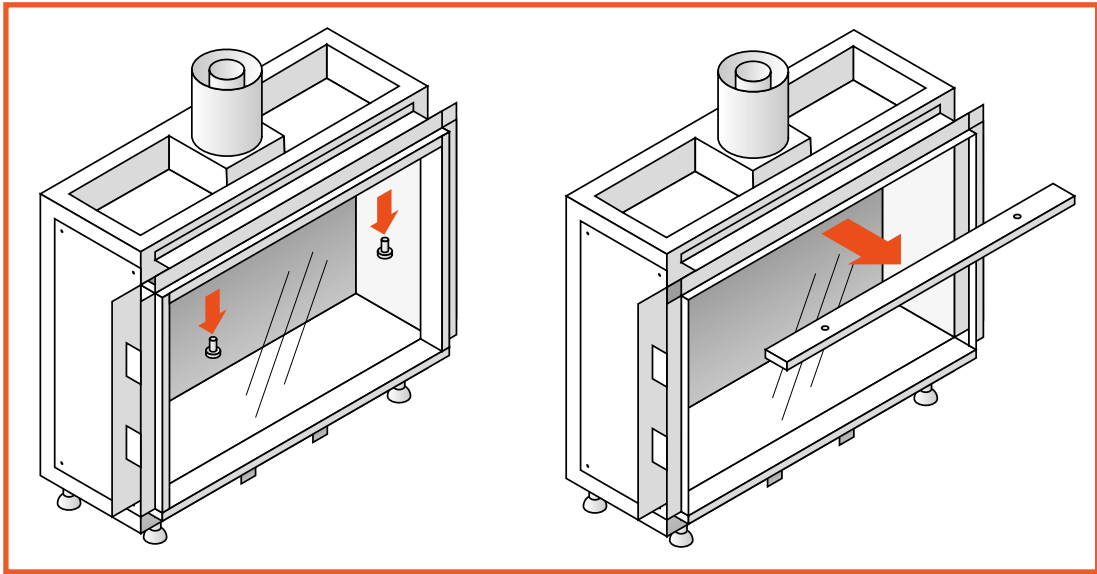

Figure 10.2 & 10.3 - Removing upper trim
- Remove the upper trims, by loosening the two screws, shown in **figure 10.2** and **10.3**